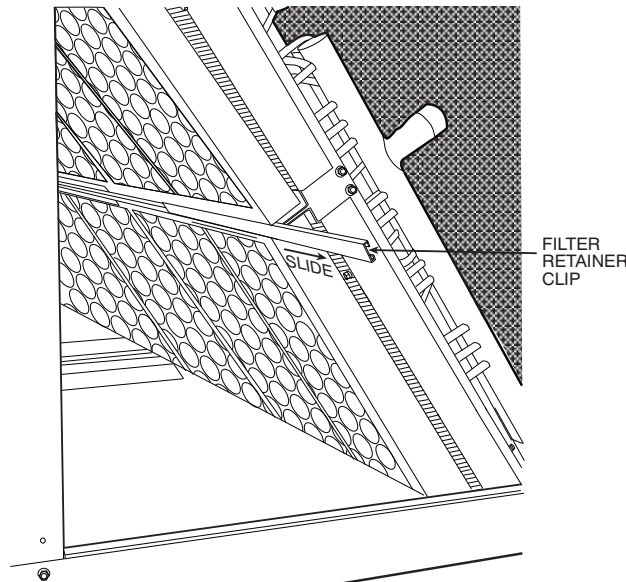

Fig. 27 - Remove Filter Retainer Clip
2. Remove the filter retainer clip (see Fig. 27).